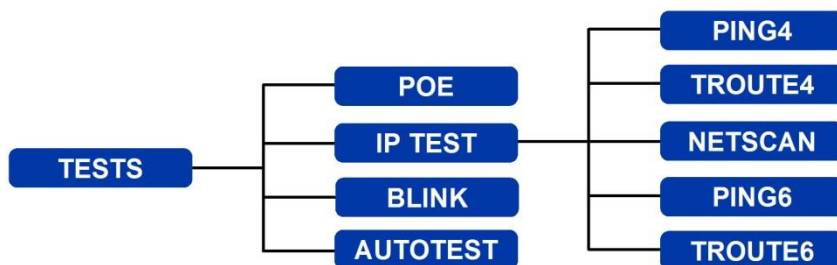

Fig 16 Tests menu map – Ethernet testing (2)
(2) When an active network is detected but no SignalTEK NT Remote Unit, the home screen information bar will read 'Ethernet' and when the TESTS icon is selected; the Ethernet tests shown at Fig 16 are available.